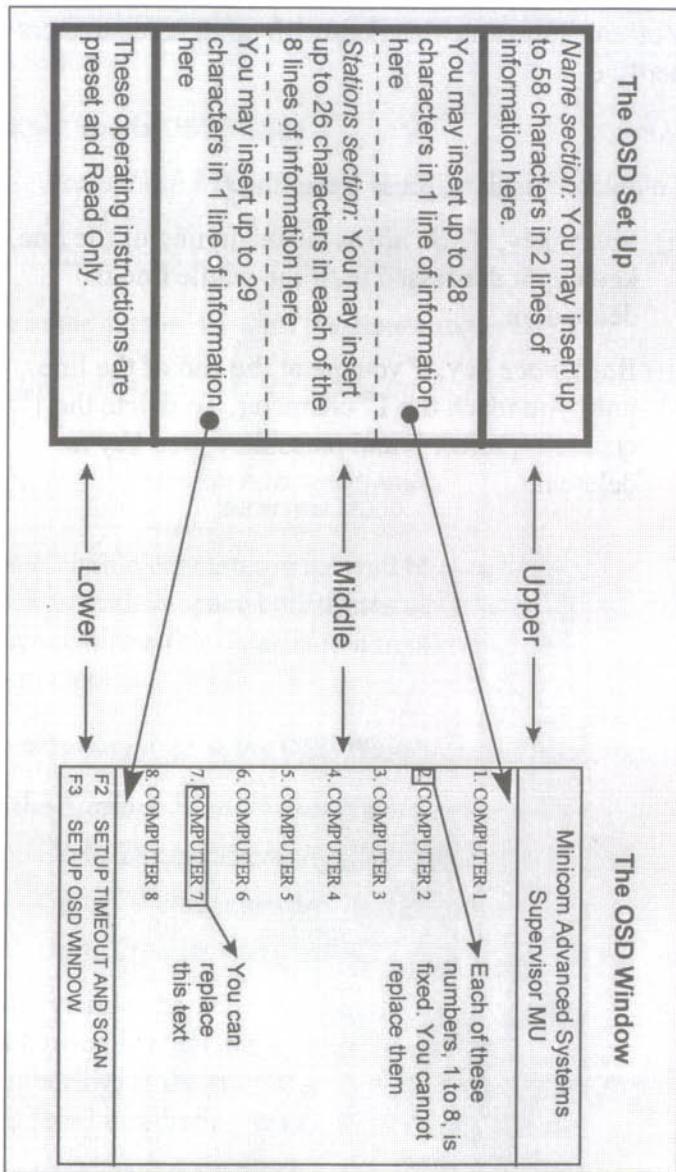

Figure 5-1: Entering Data in the OSD Window
3. Press the *F3* key on your keyboard to setup the OSD Window. You can enter the relevant data, as Figure 5-1 summarizes.